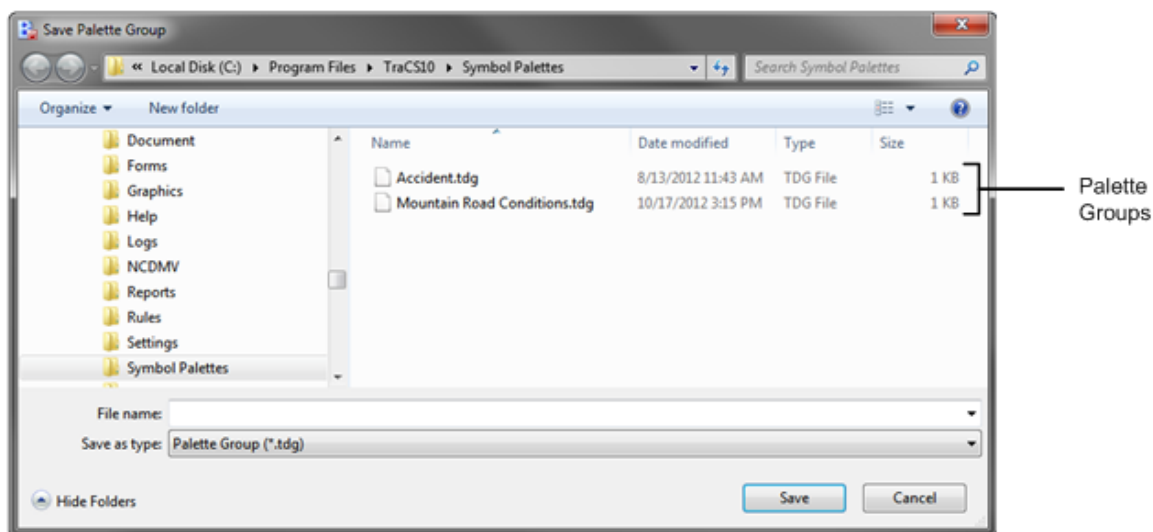

Figure 115. Save Palette Group Dialog Box
2. Select **Create Palette Group** from the **File** menu. The **Save Palette Group** dialog box opens, as shown in Figure 115.